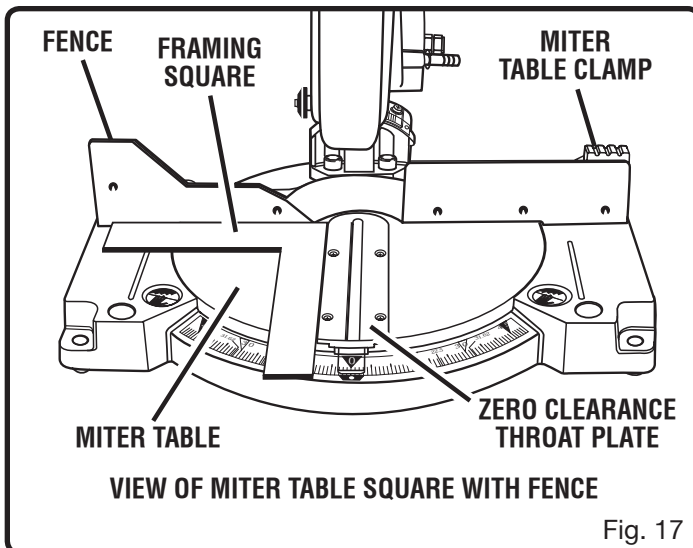

Fig. 17
See Figures 17 - 20.
- Lay a framing square flat on the miter table. Place one leg of the square against the fence. Place the other leg of the square beside the zero clearance throat plate in the miter table. The edge of the square and the zero clearance throat plate in the miter table should be parallel as shown in figure 17.